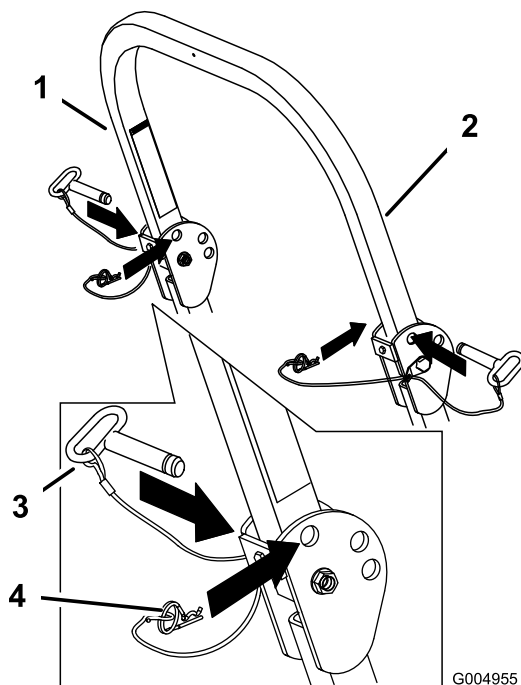

Figure 7
1. Remove the hairpin cotter pins and remove the two pins (Figure 7).
3. Install the two pins and secure them with the hairpin cotter pins (Figure 7).
4. To raise the roll bar, remove the hairpin cotter pins and remove the two pins (Figure 7).
5. Raise the roll bar to the upright position and install the two pins and secure them with the hairpin cotter pins (Figure 7).